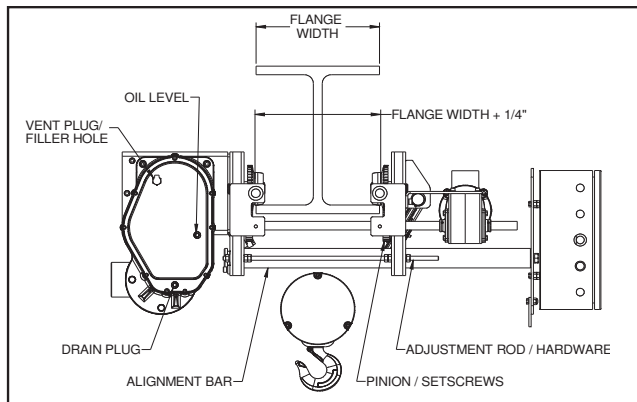

Figure 2-1. Trolley Wheel Spacing
If the trolley can be installed directly from the end of the supporting beam, adjust the spacing between the trolley wheel flanges to be 3/16"-1/4" greater than the exact width of the beam flange (See Figure 2-1). Before adjusting the width of the trolley frame, make sure to loosen the pinion set screws on the keyed cross shaft nearest the traverse drive reducer. Do not lose the keys for the pinion during adjustment. Also, the electrical conduit/cable must not be constrained when attempting to adjust the trolley sides, in or out. The trolley width is adjusted by loosening the jam nuts on the traverse drive side of the threaded rods at each end of the hoist. If necessary, lubricate the frame alignment bars with penetrating oil before attempting to adjust trolley width. The trolley side may then be pushed or driven into position by turning the adjusting nuts on the threaded rods. Adjust nuts on each side of the hoist simultaneously, to avoid binding. After adjusting the trolley to the proper width, tighten all adjusting nuts and setscrews, and re-secure the electrical conduit/cable. Verify that the geared wheels mesh properly with the traverse drive pinions. Using proper equipment, carefully lift the hoist and install on the end of the beam. Lubricate the wheel gear and all pinions (WG, Section IV, Paragraph 4-5).
For trolleys which are to be mounted along the span of a beam not having open ends, the trolley must be adjusted in the same manner as described above to a width that allows clearance between the axle ends and the beam flange. Using proper lifting equipment, the trolley and hoist must then be lifted to the beam where it is to be installed. Once in position, adjust the spacing between the trolley wheel flanges to be 3/16"-1/4" greater than the exact width of the beam flange (See Figure 2-1). After tightening all adjusting bolts, set screws, and all electrical conduit/cable clamps, carefully set the trolley on the beam. Lubricate the wheel gear and all pinions (WG, Section IV, Paragraph 4-5).
- Check Oil Level. (Figure 2-1) The gearcase has been filled with oil to the proper level. However, this should be rechecked before operating the hoist.
Check oil level by removing the oil level plug indicated in Figure 2-1. When properly filled, oil should be level with the bottom of the tapped hole. Fill to this level with oil as specified in Paragraph 4-2.e.